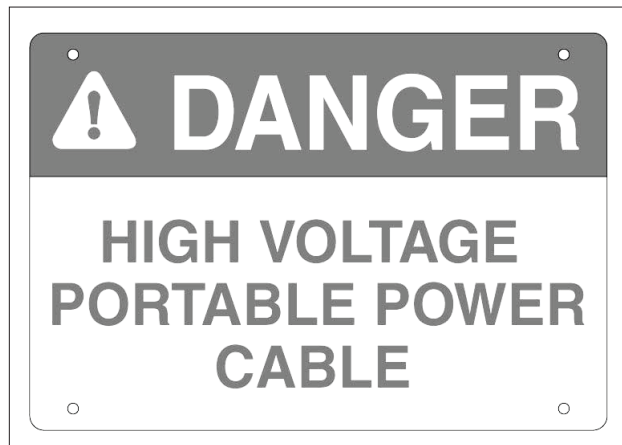

Figure 48-1 Danger Sign
1. Ensure that the danger signs are in place and visible at each end of the travel lane. See figure 48-1.